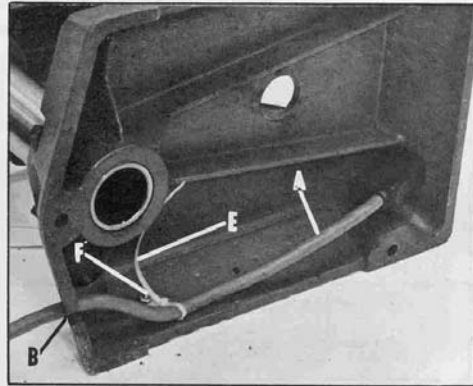

Fig. 6
2. Tilt the drill press on its side and place the cord (A) Fig. 6, in the slot (B). Insert switch stem through hole in front of drill press base making sure the keyway in the switch stem is in the down position.
4. **IMPORTANT:** Using the nylon wire clamp (E) and screw and nut (F) Fig. 6, tie the cord in such a manner, as shown in Fig. 6, that there is no danger of the cord being "pinched" when the drill press base is fastened to a stand or workbench.